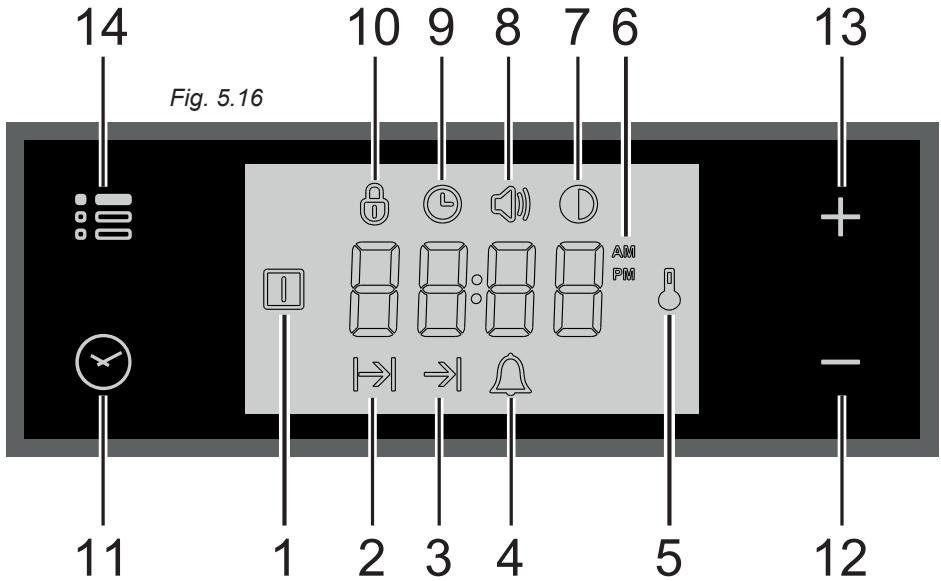

Fig. 5.16
**MODELS WITH ELECTRONIC CLOCK/PROGRAMMER “Touch-Control” (START-END COOKING) (fig. 5.16)**